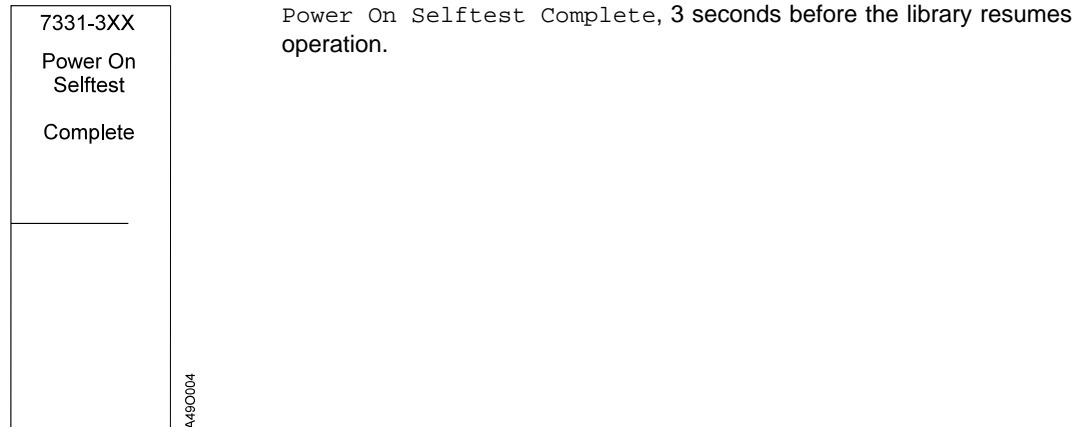

Figure 21. Power On Selftest Complete Display
Step 10. At the end of POST, the library beeps for 1 second. The control panel display shows the message in Figure 21: